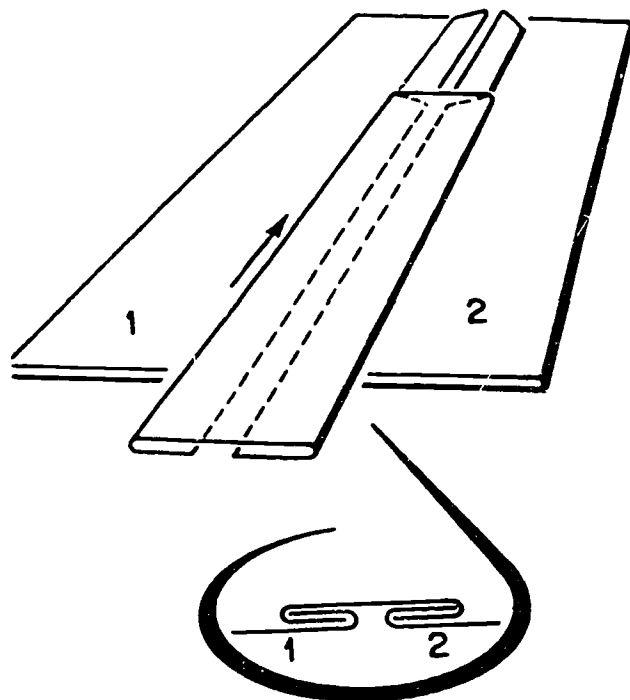

Figure 2-14. Drive slip.
**Drive Slip.** The drive slip (sometimes called a drive cleat), illustrated in figure 2-14 and A-4 of figure 2-1, is used as a joint connector to secure piece 1 to piece 2. Notice how the drive slip and the turned back edges of pieces 1 and 2 form a lock joint. You install the drive slip by striking it lightly with a hammer in the direction indicated by the arrow. Although drive slips can be used to connect flat sheets of metal, they are most often